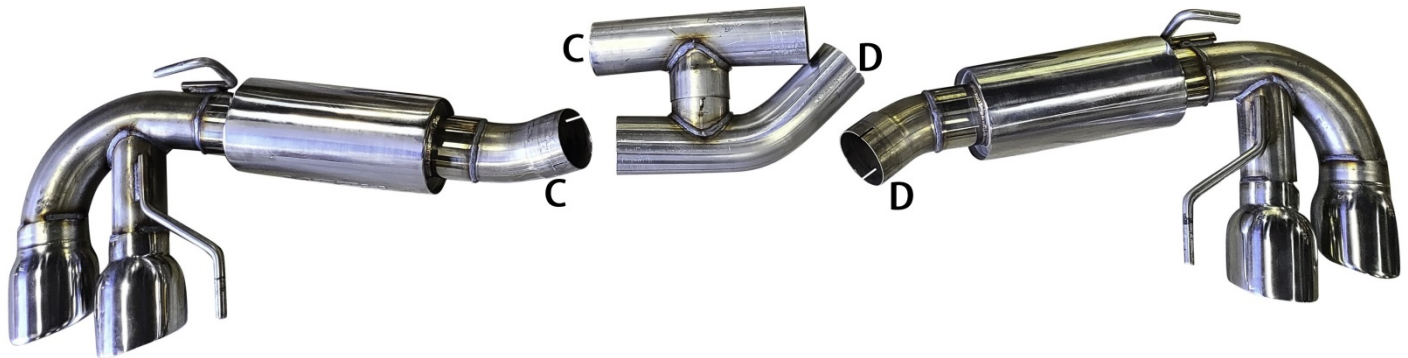

Figure 2
**Step #6:** Install the Passenger Side Tip Section (D) with a 3" clamp fitted over the end, then loosely fitted to rear side (D) of the H section. See **Figure 2**.
**Step #7:** Install the Driver Side Tip Section (C) with a 3" clamp fitted over the end, then loosely fitted to front side (C) of the H section. See **Figure 2**.